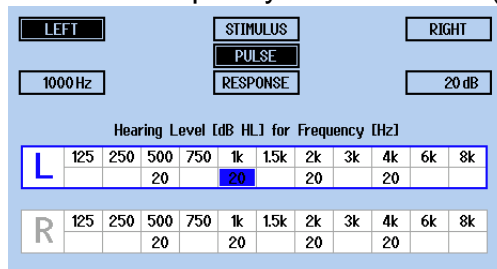

Figure 22
- **Table:** The response in the table view is stored as a numerical value under the frequency and ear tested (Figure 22).